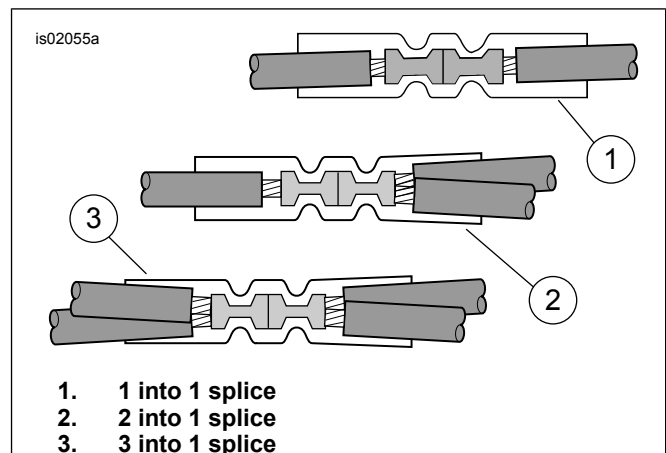

Figure 15. Splice Configurations
3. See Figure 15, the 2 into 1 splice configuration. Use a **red** sealed splice connector (Figure 27, Item 4) from the kit to splice the black garage door opener transmitter wire to the **black** wires from the headlamp. Trim back the transmitter wire harness casing as needed to assist splicing.
1. See Figure 15, the 2 into 1 splice configuration. Use a **red** sealed splice connector (Figure 27, Item 4) from the kit to splice the black wire (13) from the kit to the black transmitter ground wire according to the instructions in the service manual appendix. Slip the conduit (10) from the kit over the spliced ground wire.
4. Select the 6.4 mm (1/4 in) ring terminal (7) from the kit. Crimp the ring terminal onto the black transmitter wire per the Packard crimping tool instructions in the service manual appendix.
4. See Figure 15, the 2 into 1 splice configuration. Use a **red** sealed splice connector (Figure 27, Item 4) from the kit to splice the garage door opener wire harness power lead to the main harness orange/white wires per the instructions in the service manual appendix.
6. See Figure 15, the 1 into 1 splice configuration. Use a **blue** sealed splice connector (Figure 27, Item 5) from the kit to splice the garage door opener wire harness power lead to the adapter wire per the instructions in the service manual appendix.
3. See Figure 15, the 2 into 1 splice configuration. Use a **red** sealed splice connector (Figure 27, Item 4) from the kit to splice the garage door opener wire harness power lead to the cut orange/white wires per the instructions in the service manual appendix.